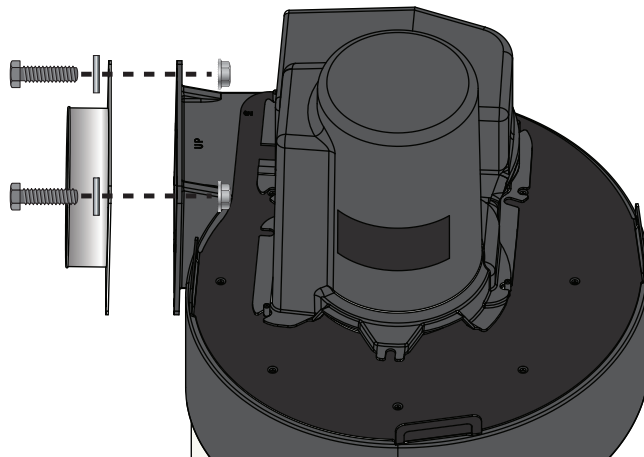

FIG. 7
Attach the 8" Outlet Adapter (E) onto the outlet of the Fan Housing (B) with four Hex Head Bolts (O9), eight Flat Washers (O5), and four Whiz-Lock Nuts (O6) as shown in [FIG. 7].